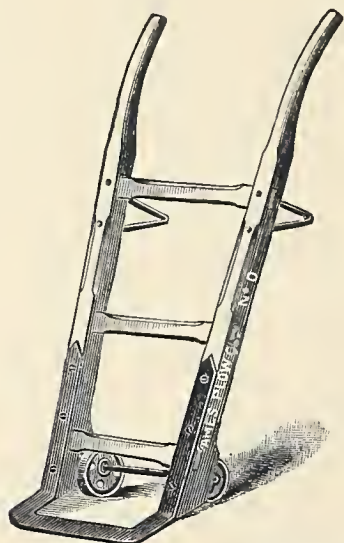

Fig. 500. — Ames Store-Truck (Inside Wheel).
*The Ames Inside-Wheel Store-Truck*, represented by *Fig. 500*, can be used in a narrow space without liability of striking articles in passing, as the axle does not project beyond the handles. Nos. 00, 0, 1, 2, and 3 are made in this manner.